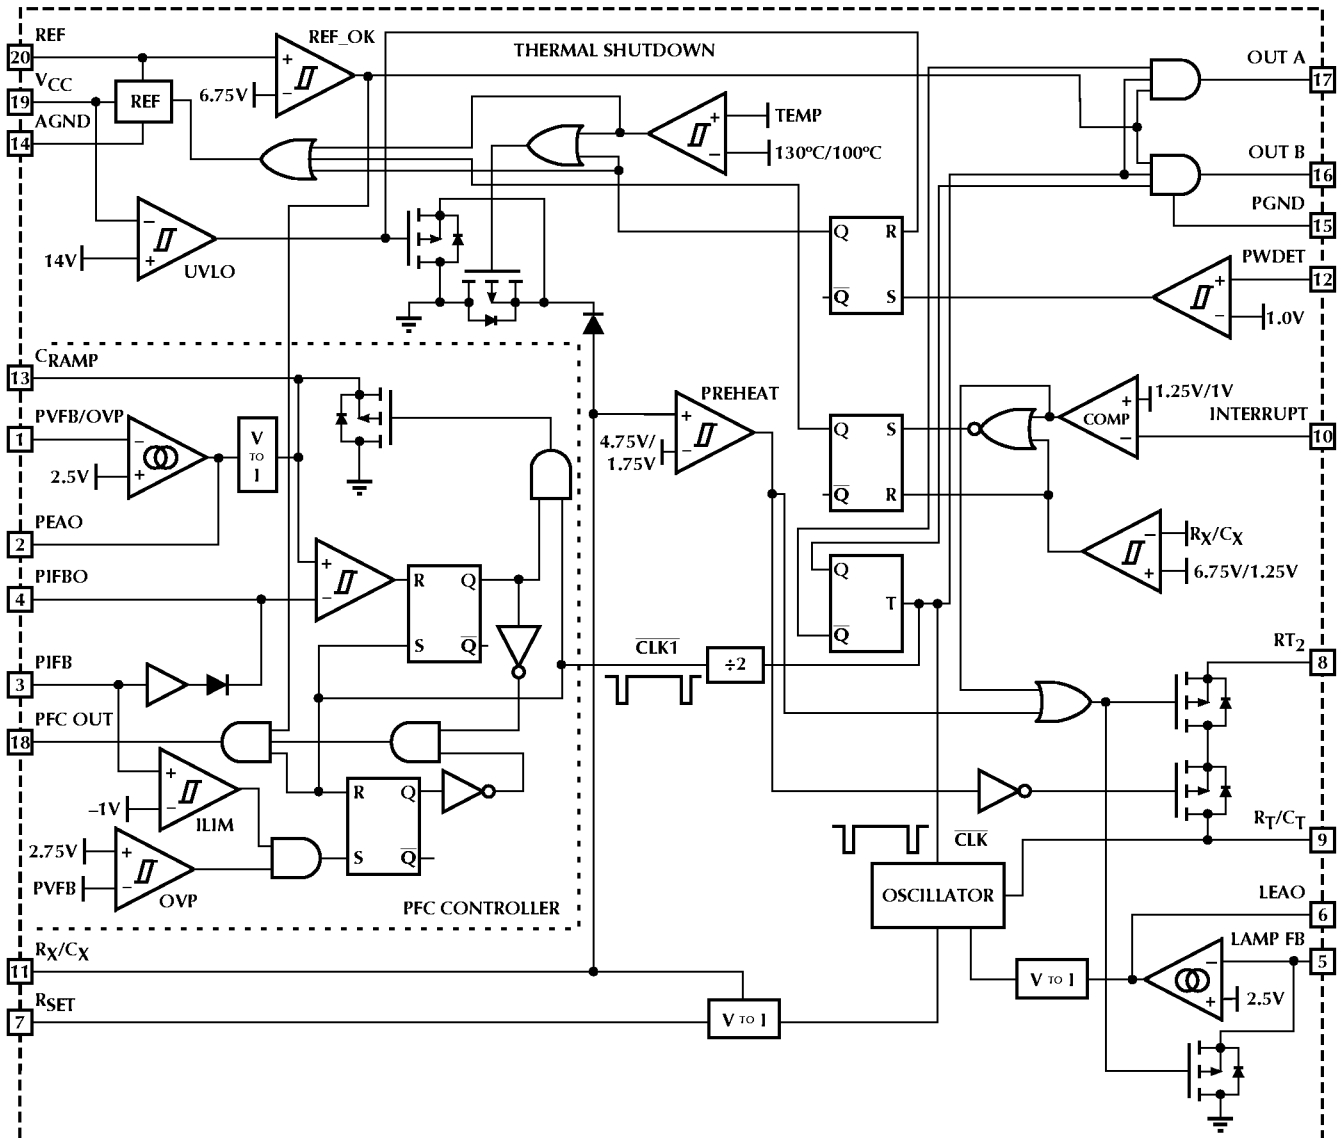

Figure 1. Detailed Block Diagram
The ML4835 consists of peak or average current controlled continuous boost power factor frontend section with a flexible ballast control section. Start-up and lamp-out retry timing are controlled by the selection of external timing components, allowing for control of a wide variety of different lamp types. The ballast section controls the lamp power using frequency modulation (FM) with additional program ability provided to adjust the VCO frequency range. This allows for the IC to be used with a variety of different output networks. Figure 1 depicts a detailed block diagram of ML4835.